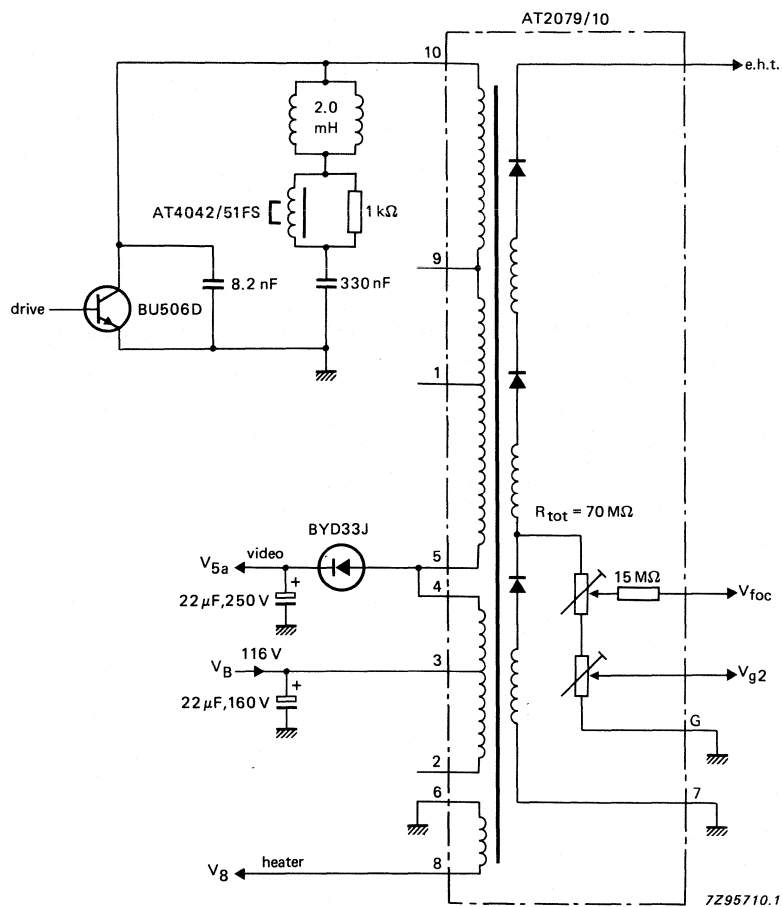

Fig. 4 Application circuit for 90° flat square picture tube A51EAL00X.
**ELECTRICAL DATA;** see application circuit for 90° flat square picture tube A51EAL00X, Fig. 4.